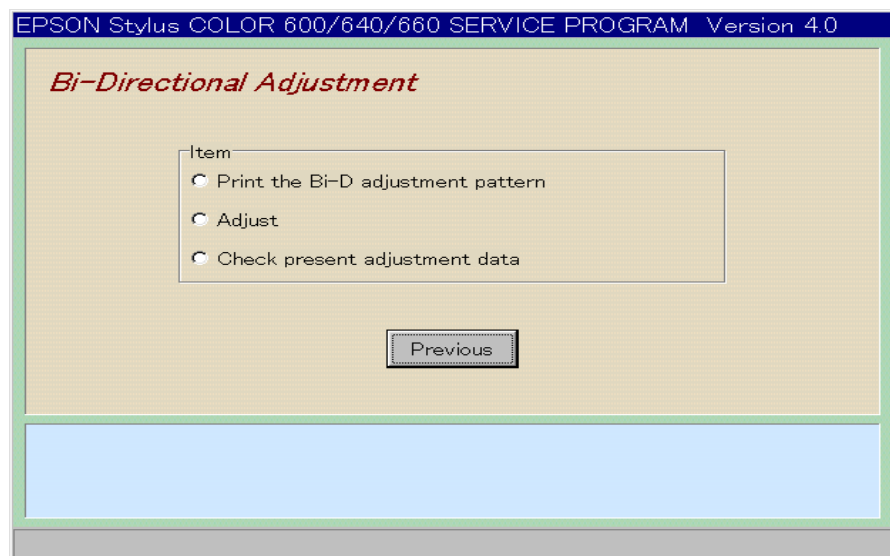

Figure 5-25. Bi-D Adjustment Menu
- Go back to “Bi-D Adjustment” screen (Figure 5-25), select “Adjust”. The screen below appears.
- Click “Previous”. The current screen returns to the Bi-D adjustment menu. (See Figure 5-25.)